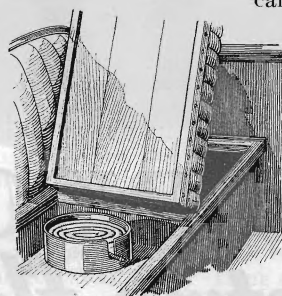

Fig. 5. A cake tin with slot for valve makes good tube container
**E**VERY motorist should carry along at least one spare tube when he is going on an extended trip, but there is no advantage in carrying a spare tube if it is simply thrown in the tool box and left there until needed. The constant chafing against the other tools will be sure to ruin it. The simplest possible container is a cake tin with a slot cut in the rim for the valve stem, as illustrated in Fig. 5. It should be nailed securely to the bottom of the tool compartment so that it will stay in one place and not turn over and let the tube drop out.